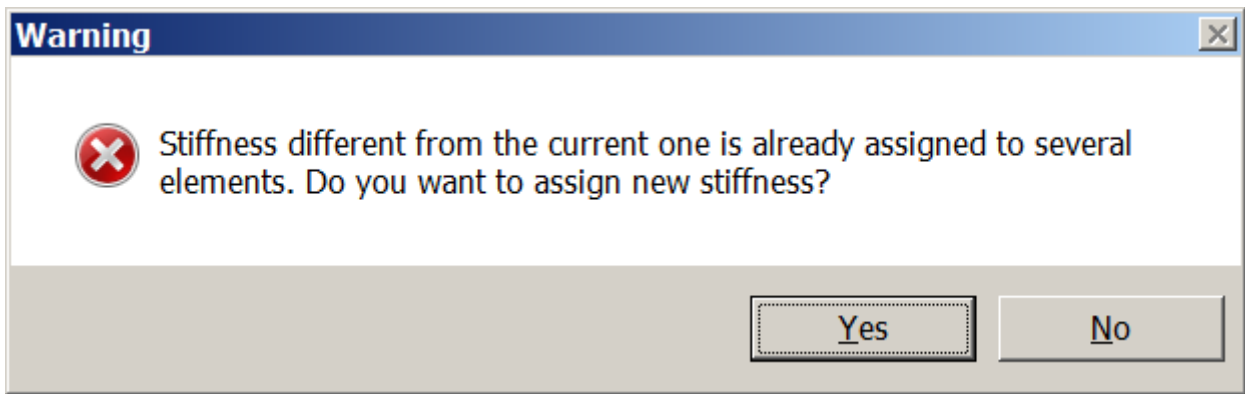

Figure 8.14 Warning box
- ⇒ The **Warning** box is displayed (see Fig.8.14). Click **OK**.